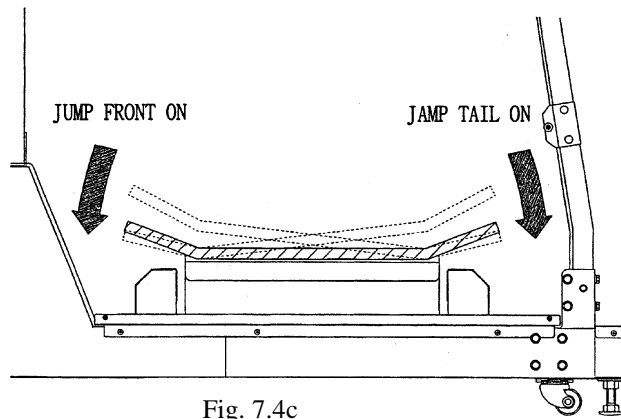

Fig. 7.4c
- JUMP FRONT and JUMP TAIL indicate the status of the Sensor which detects the stepping on the backward/forward parts of the Skate Board (Fig. 7.4c).